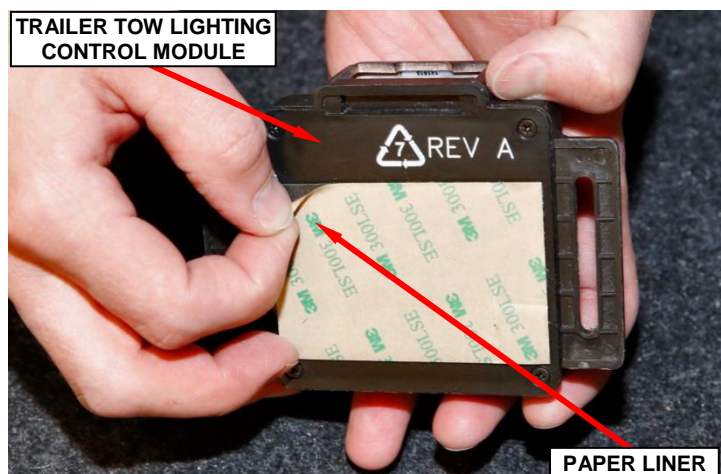

Figure 23 – Remove Paper Liner
26. Remove the paper liner from the foam adhesive patch on the new trailer tow lighting control module (Figure 23).